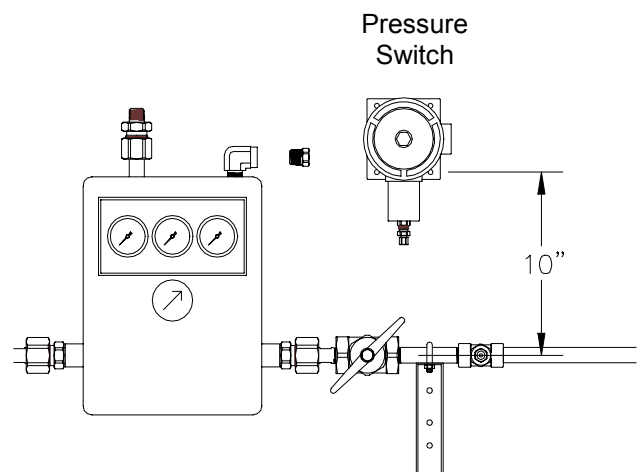

FIGURE 2
1) The pressure switch should be mounted near the upper right hand corner of the manifold. (Figure 2)